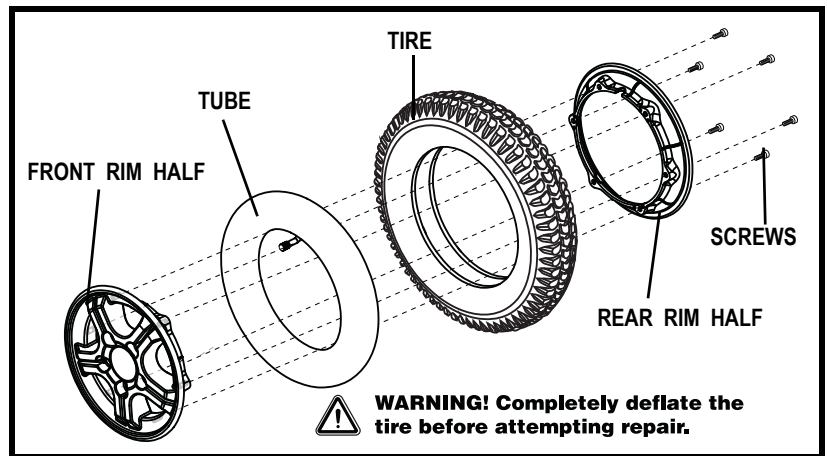

Figure 28. Fusion Drive Wheel Disassembled
6. Remove the screws and separate the front and rear rim. See figure 28.